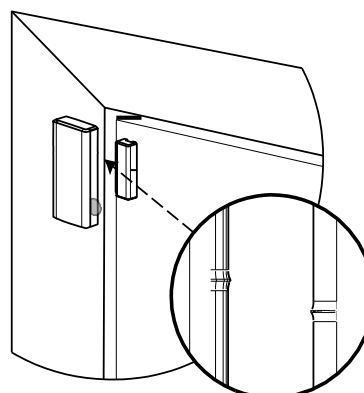
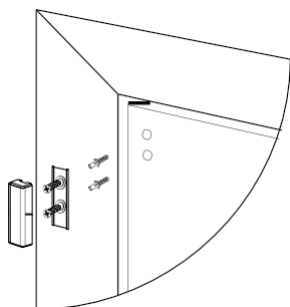

Figure 3:
Figure 6: Magnet screw installation
2. Place the device on the frame of a window or door and place the magnet on the moving surface of the door or window itself, directed according to the location marks. See Figure 3.
3. Screw the magnet base on to the door. See Figure 6. Align the magnet and device directed according to the location marks. See Figure 3.